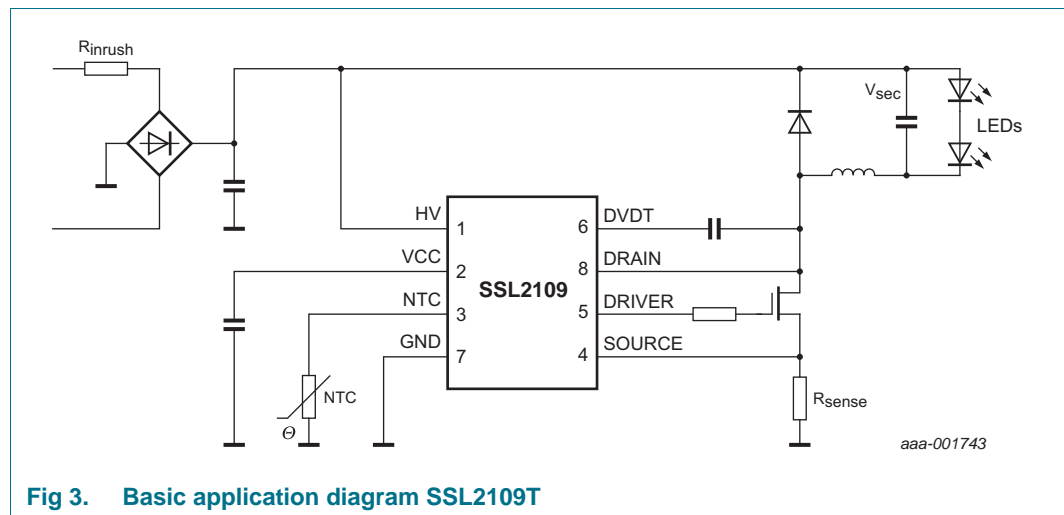
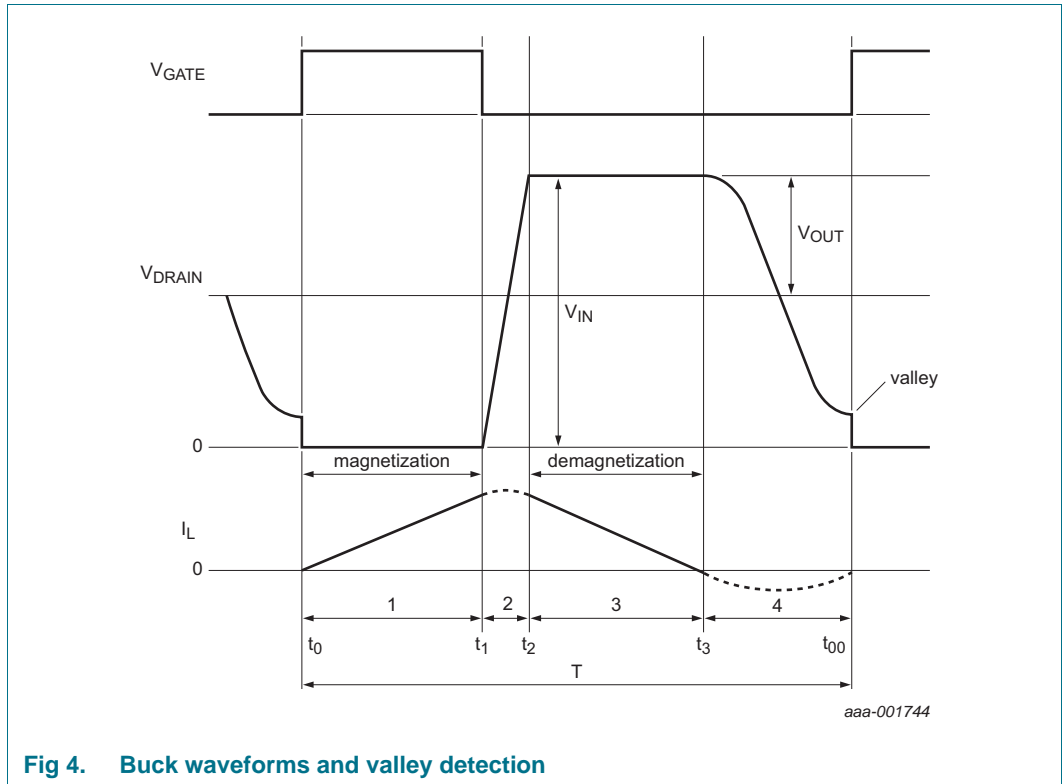

Fig 3. Basic application diagram SSL2109T
Fig 4. Buck waveforms and valley detection
- Low component count (see Figure 3) LED driver solution:
The converter in the SSL2109T is a Boundary Conduction Mode (BCM), peak current controlled system. For the basic application diagram see Figure 3, for the waveforms see Figure 4. This converter type operates at the boundary between continuous and discontinuous mode. Energy is stored in inductor L each period that the switch is on. The inductor current  $I_L$  is zero when the MOSFET is switched on. Thereafter, the amplitude of the current build-up in L is proportional to  $V_{IN} - V_{OUT}$  and the time that the MOSFET switch is on. When the MOSFET switch is switched off, the current continues to flow through the freewheel diode and the output capacitor. The current then falls at a rate proportional to the value of  $V_{OUT}$ . The LED current  $I_{LED}$  is almost equal to half the peak switch current. A new cycle is started, as soon as the inductor current  $I_L$  is zero.
A new cycle is started when the primary switch is switched on (see Figure 4). In the following sections on represents the conductive state and off the non-conductive state.